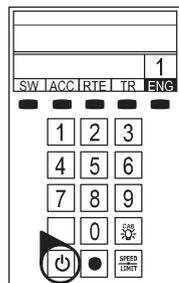

Figure 3. LEGACY start-up
5. Press the Start Up key on your LEGACY CAB-2 Remote, shown in Figure 3. Then, throttle up and move 'em out! Your engine sound will start up, and the locomotive-specific touch screen buttons will populate the remote. For more information on operating your locomotive with the LEGACY system, please refer to the LEGACY section of this manual. Additional information is also found in the LEGACY System Manual, available online at [www.lionel.com](http://www.lionel.com).